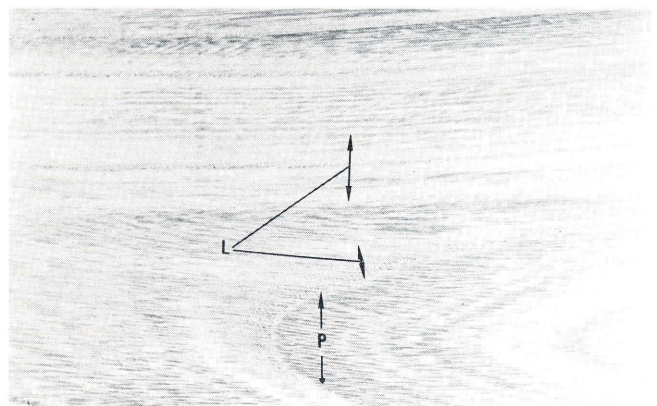
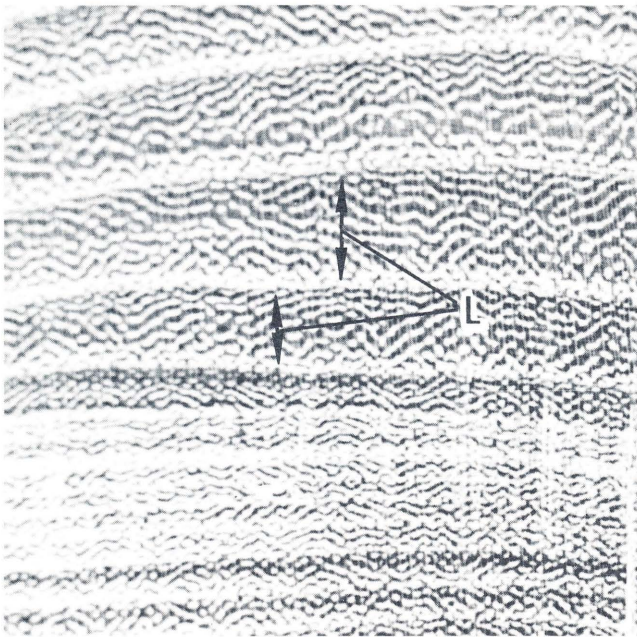

Figure 17—Elm. Earlywood pores in area P, striated latewood area, L.
Figure 18 — Elm cross section with wavy lines of pores in latewood part, L, of growth ring. (About 10x magnification).
20. On cross section latewood appears as wavy bands (Fig. 18), tangential surface with striations throughout the latewood (Fig. 17) **Elm**